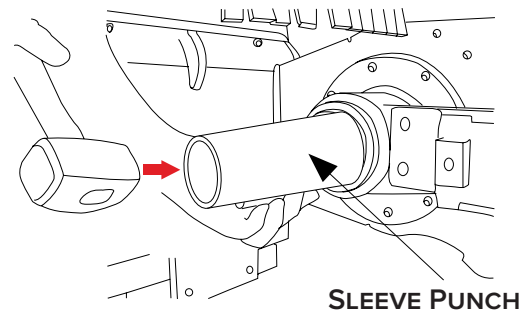

Figure 23
1. Use a large punch/sleeve/collar to gently tap the seal to ensure its installed evenly [Figure 23].